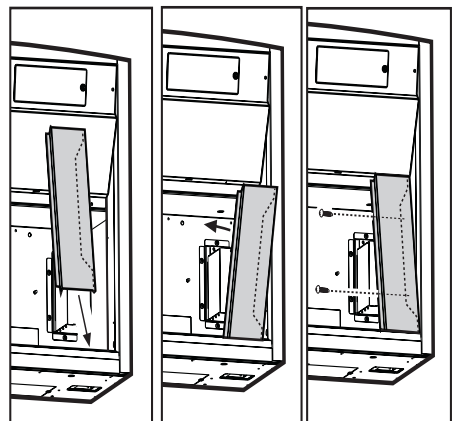

Figure 12
7. Only HSB30 and HS30 Series hoods: fit the side mould on the right side, and fix it with 3 screws as shown in **Figure 12**.
6. Connect wire clamp to "pigtail" as shown in Figure 12. Insert "pigtail" wires into j-box and fix wire clamp to j-box using nut supplied with wire clamp **V**.